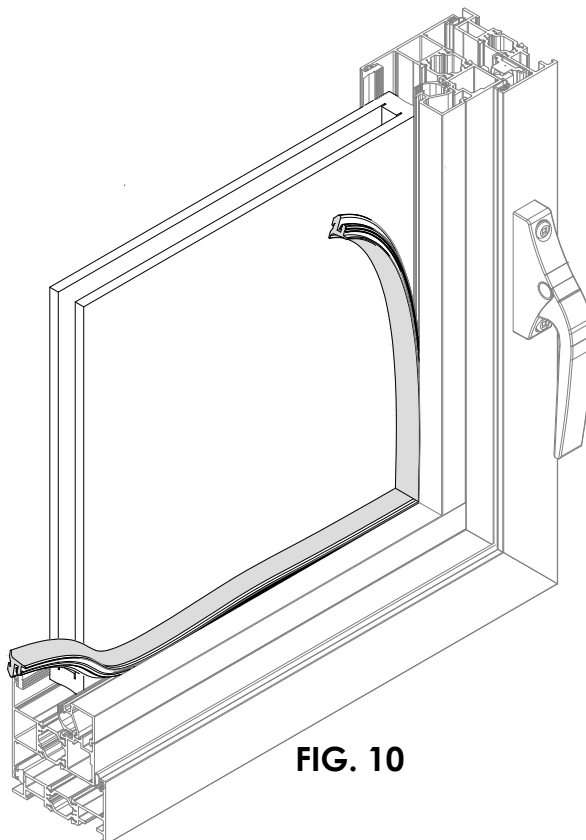

FIG. 10
- c. Insert glazing gasket starting from one end, repeat this every 16" [406]. Ensure opposite end of the gasket is inserted before rolling remaining gasket. See **FIG. 10**. Ensure glazing gasket is pressing against airseal gasket. See **FIG. 11**